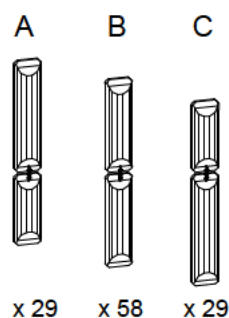

Fig. 6
1. Hook the crystals together as strand A, B and C (fig. 6).